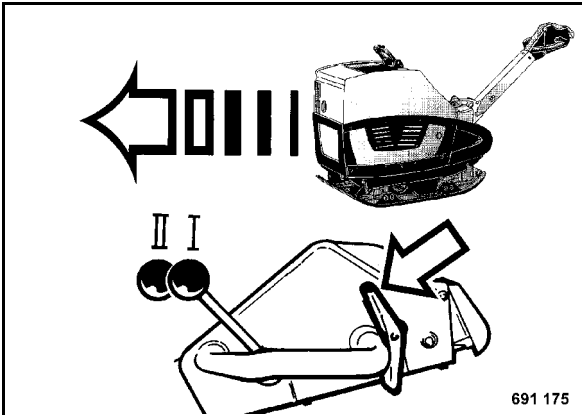

Fig. 34
- Press the upper part of the travel lever (tip switch) (Fig. 34), until the vibratory plate has reached the desired forward travel speed.